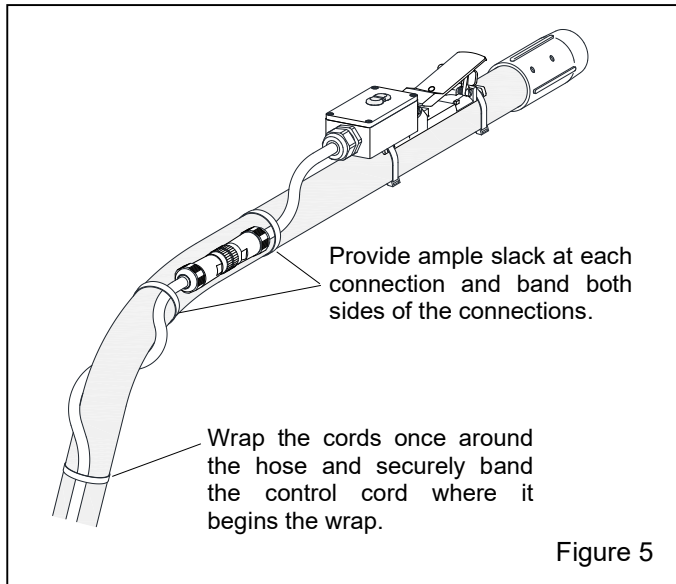

Figure 5
2.5.2 Connect the control cord to the RLX whip cord and wrap the cords once loosely around the blast hose, as shown in Figure 5.
2.5.3 Band the cord to the blast hose on both sides of the cord connections, as shown in Figure 5.